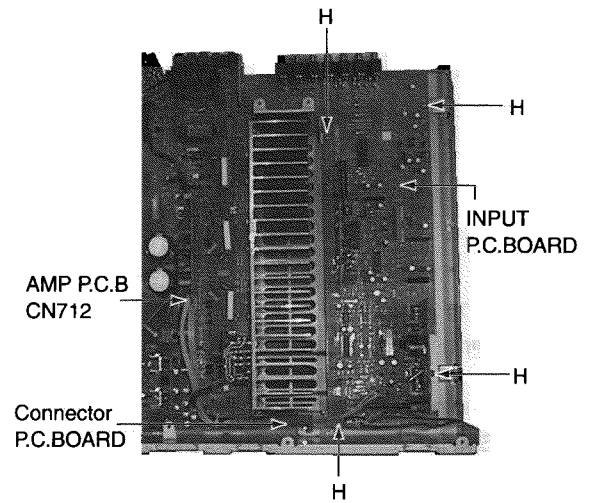

Fig.6
(5)INPUT P.C.BOARD Removal (Fig.6)